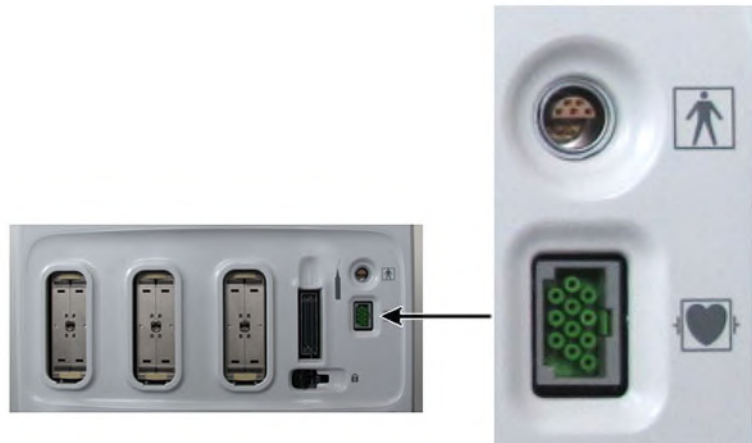

Figure 3-8. The patient (I/O) connection panel
1. Connect the ECG trunk cable to the rectangular socket marked ECG on the patient trace (I/O) panel. The patient trace (I/O) panel is located at the front left of the ultrasound system (see Figure 3-8).